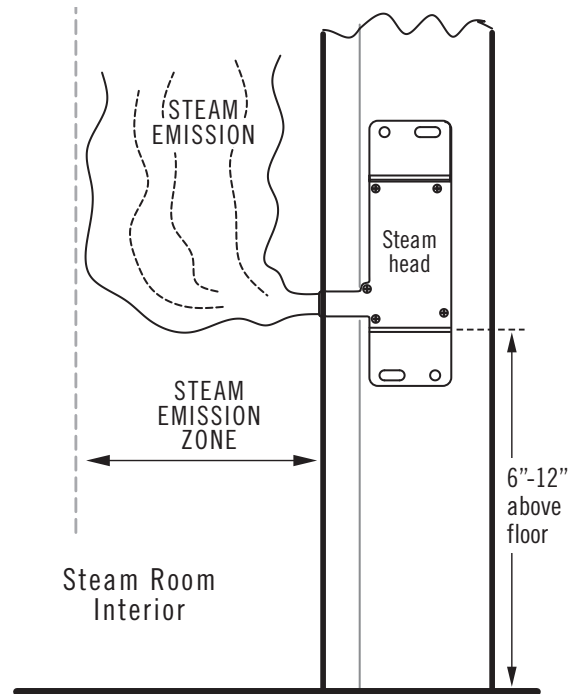

Figure 2
CAUTION Because steam emissions are very hot, locate the steam head where incidental contact by the bather with direct steam emission cannot occur. Do not locate the steam head in any location where the steam emission zone is near a seat, bench or any space occupied by any persons. See Fig. 2 for a diagram of the steam emission zone. Failure to follow these instructions may result in a hazardous condition, scalding or personal injury.
STEP 1. Locate the steam head 6-12" above the finished floor. Do not locate the steam head in any location where the steam emission zone is near a seat, bench, or any space occupied by any persons. See Fig. 2 for a diagram of the steam emission zone.